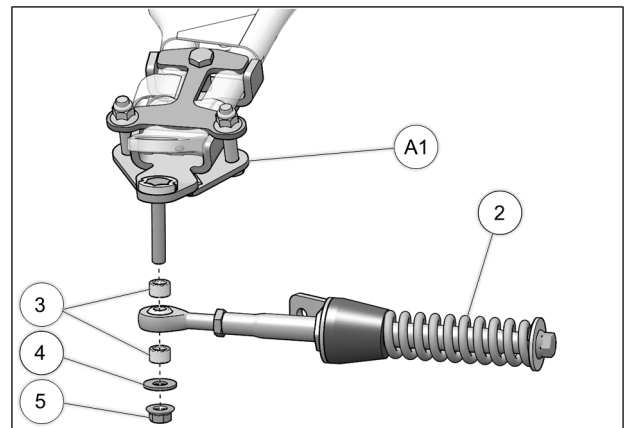

Fig. 18
9. Attach the stabilizing rod (2) to the anchor bracket (A1), using the two spacers (3), washer (4), and nut (5). Torque to 70 N•m [52 lb•ft]. Refer to Fig. 18